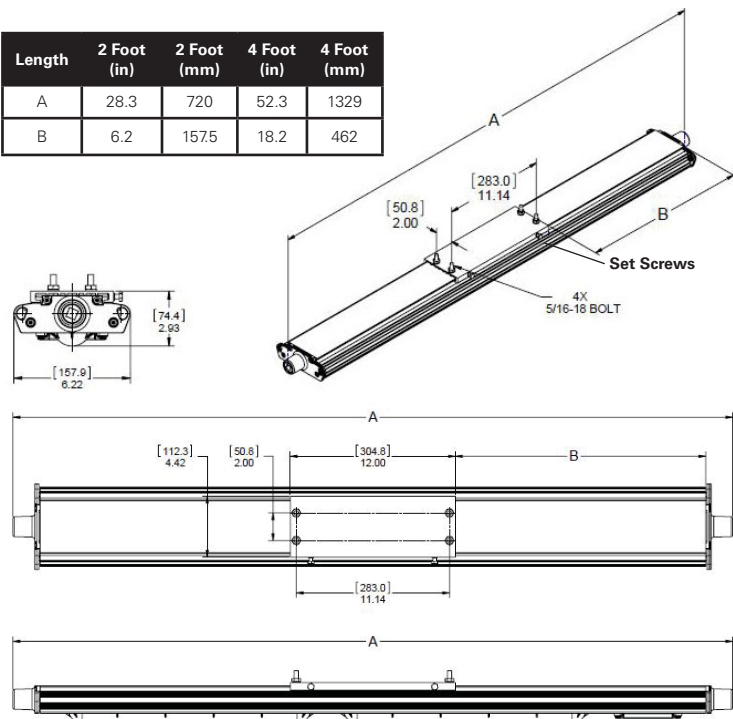

Figure 3. DP1057MTK Back Mount Installation
2. For back mount, use the bracket as a template, mark and drill holes into the mounting system and use supplied 5/16" bolts (see Figure 3).
3. Fixture is now ready for mounting. It is strongly suggested to use two (2) qualified tradespeople to proceed with the final mounting of the fixture. This is recommended to avoid any personal injury or damage to the fixture.
5. Tighten the two (2) 1/4" set screws on the slide bracket until they bottom. Torque to 78 in.-lbs. (8.8 N-m).